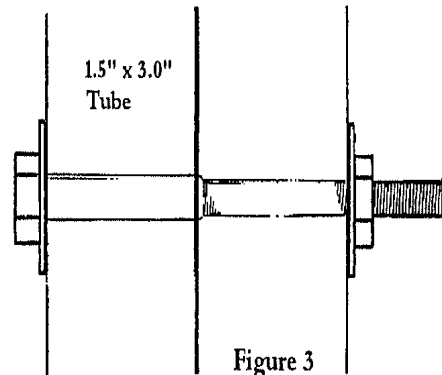

Figure 3
- Using the two 4"x .25" bolts provided, ( see figure 3 below) bolt the cases together at point "A" marked with arrows on figure 5.